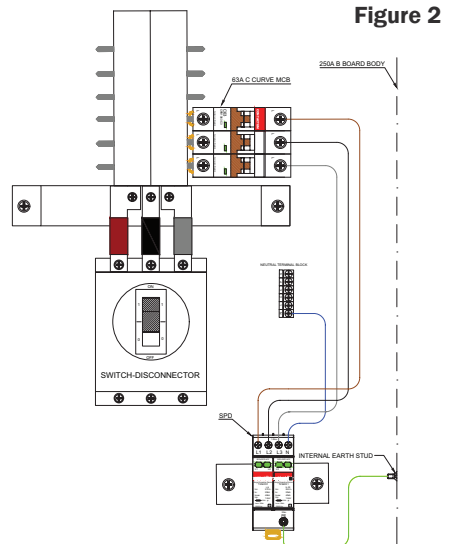

Figure 2
1. Mount the surge arrester (SPD) as shown in figure 2.
2. Mount the 3 pole MCB (63A) Type C (CPB1063C3) on the lower right hand side of the busbar assembly of the DDB Board. See figure 2.
- a. Connect the brown cable between (L) terminal on the left hand side of the SPD and the outgoing terminal of the 3P MCB connected to the brown phase.
- b. Connect the black cable between the second from the left (L) terminal of the SPD and the middle outgoing terminal of the 3P MCB connected to the black phase.
- c. Connect the grey cable between the second from the right (L) terminal on the SPD and the outgoing terminal of the 3P MCB connected to the grey phase.
- d. Connect the blue (Neutral) cable between the (N) terminal on the SPD and the lowest terminal of the right neutral terminal bar.
- e. Connect the earth cable between the earth terminal (⊕) or (PE) on the SPD and the earth stud to the lower right-hand side of the enclosure.